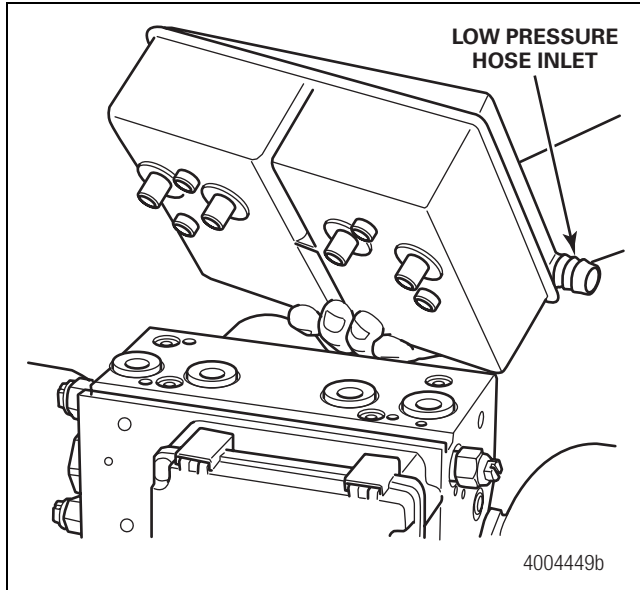

Figure 8
3. Position the new reservoir provided in the kit on the HCU and verify the orientation. The mounting screw holes must line up and the inlet port for the low pressure hose must face the front of the HCU. Figure 8.